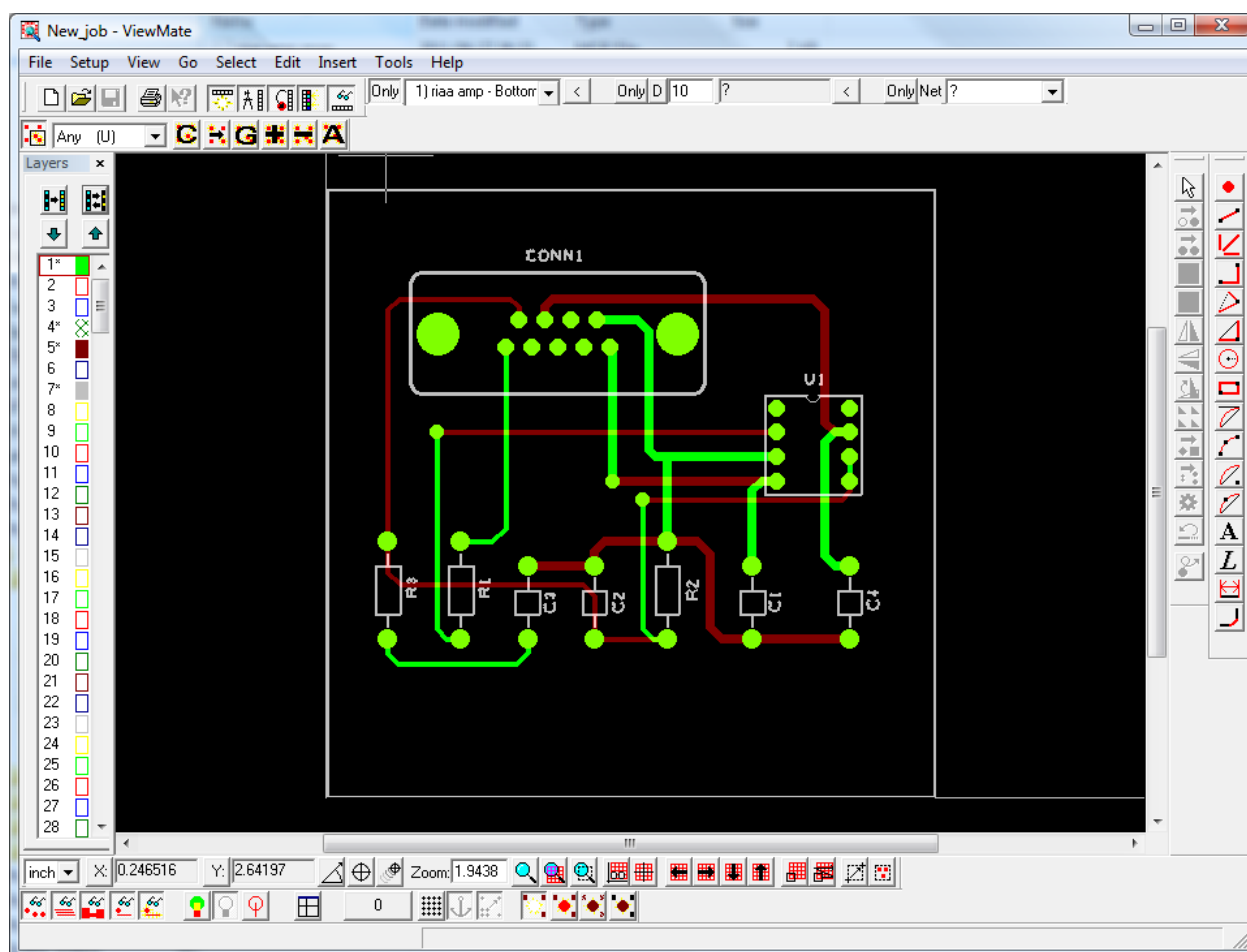

Figure 6-10: Manufacturing Files 3
9. Select the “Run” button which produces all the plot files. A free viewer such as “Viewmate” can be used to look at the plots as can be seen in the Figure 6-10.
13. Now we can select and de-select the different layers on the left, by clicking on the tick boxes as shown in Figure 6-10. These are the files that are required by the PCB subcontractor for manufacturing.